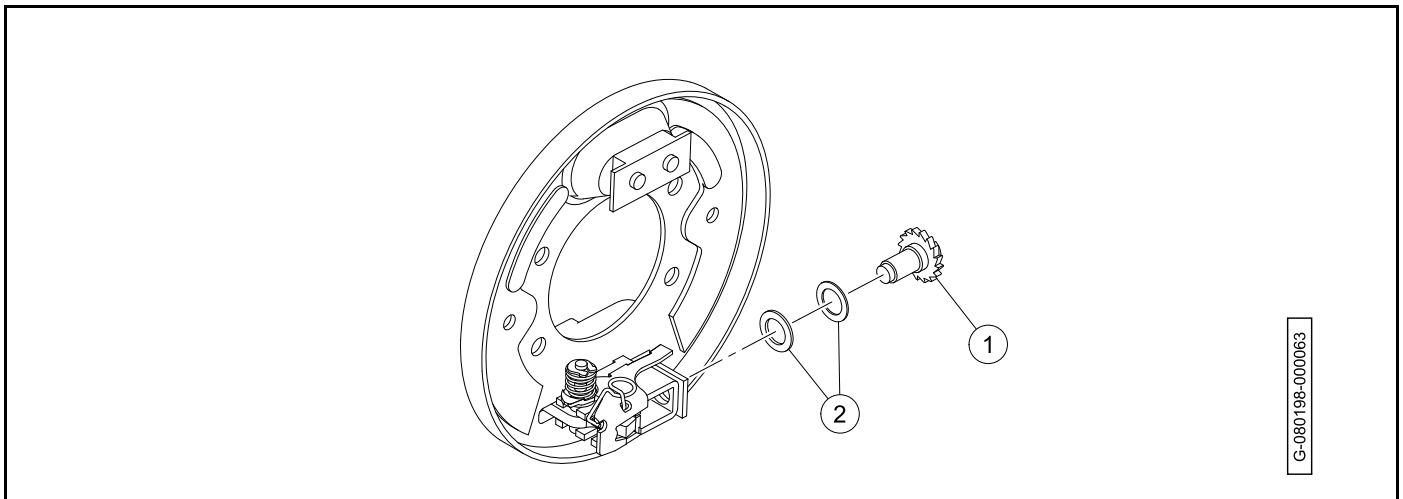

Figure 6-11
1. Install the adjuster wheel (1) and two washers (2) into the adjuster assembly (**Figure 6-11**).